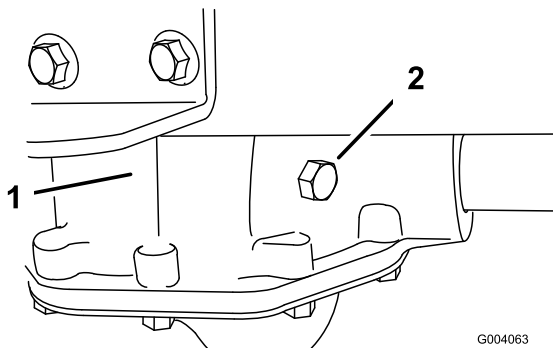

Figure 35
2. Remove the check bolt on the transaxle (Figure 35).